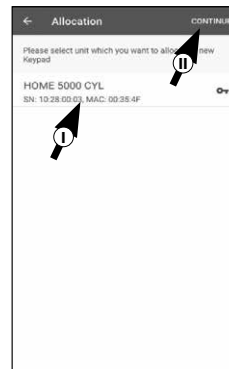

Fig. 20
⑦ A list of available secuENTRY cylinders appears (Fig. 20).
Select the required cylinder (I) and confirm with "CONTINUE" (II) (Fig. 20).